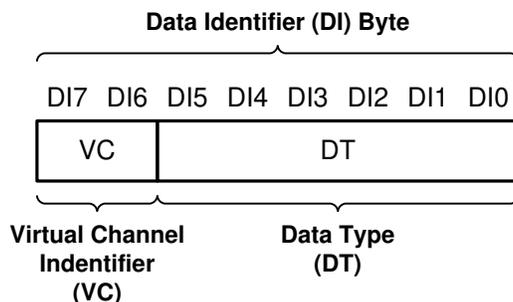

Figure 7-9. CSI-2 Data Identifier Structure
The TDES960 MIPI CSI-2 protocol interface transmits the data identifier byte containing the values for the virtual channel ID (VC) and data type (DT) for the application specific payload data, as shown in Figure 7-9. The virtual channel ID is contained in the 2 MSBs of the data identifier byte and identify the data as directed to one of four virtual channels. The value of the data type is contained in the 6 LSBs of the data identifier byte. When partnered with the Tser953 serializer, the Data Type is passed through from the received CSI-2 packets. When partnered with a DVP Mode serializer, the received RAW mode data is converted to CSI-2 Tx packets with assigned data type and virtual channel ID.